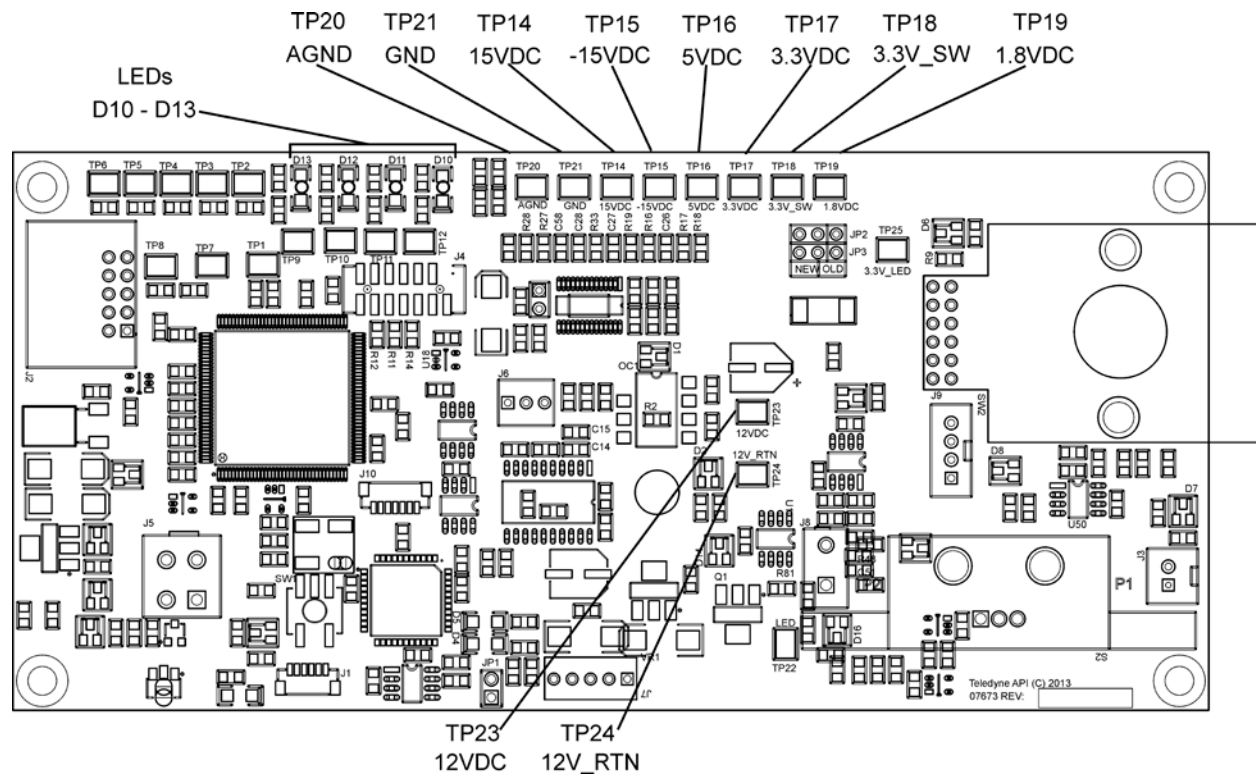

Figure 13-6 DAQ PCA Test Points and LEDs
If any adjustment to that cable does not resolve the issue, the DAQ PCA can be checked by observing LEDs D10 through D13 (Figure 13-6). If they are not blinking, the DAQ may need to be changed. Although not all test points (TP) on the DAQ are used, if the values for TP14 through TP21, TP23 and TP24 do not come back as expected (Figure 13-6), contact Teledyne API Technical Support for a replacement.